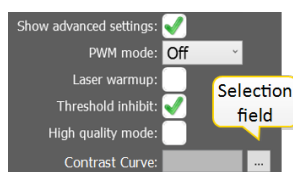

Figure 3-59 Exposure recipe advanced settings
11. **Show advanced settings**: activate to fine tune the exposure results. Additional fill in fields become visible, see **Figure 3-59 below**.